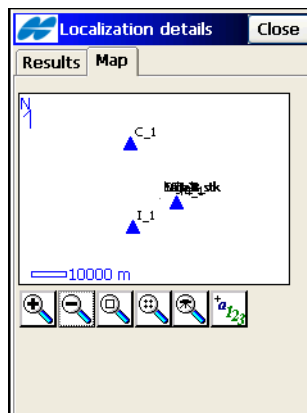

Figure 8-10. Localization Map
- The *Map* tab (Figure 8-10) displays the job graphically with the localization points marked by blue triangles.